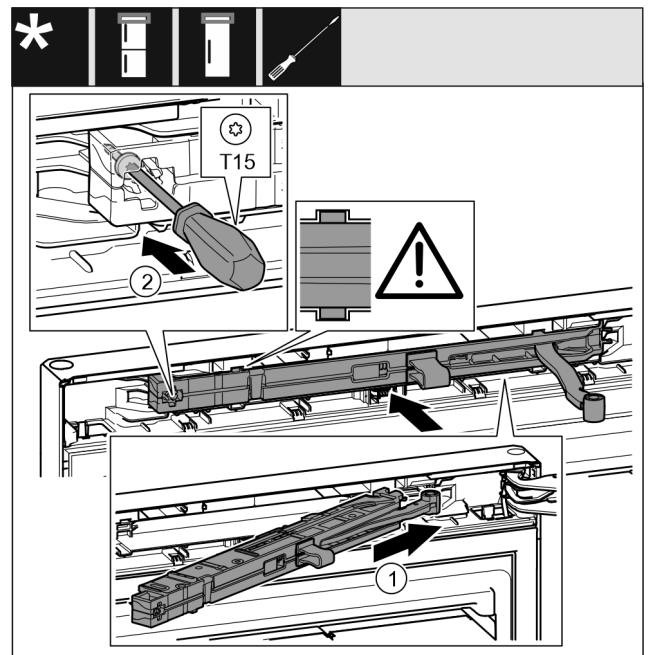

Fig. 25
- ▶ Slide the soft stop mechanism on the bearing bracket side at an angle into the recess as far as it will go. Fig. 25 (1)
- ▶ Tighten the screw using a T15 screwdriver. Fig. 25 (2)